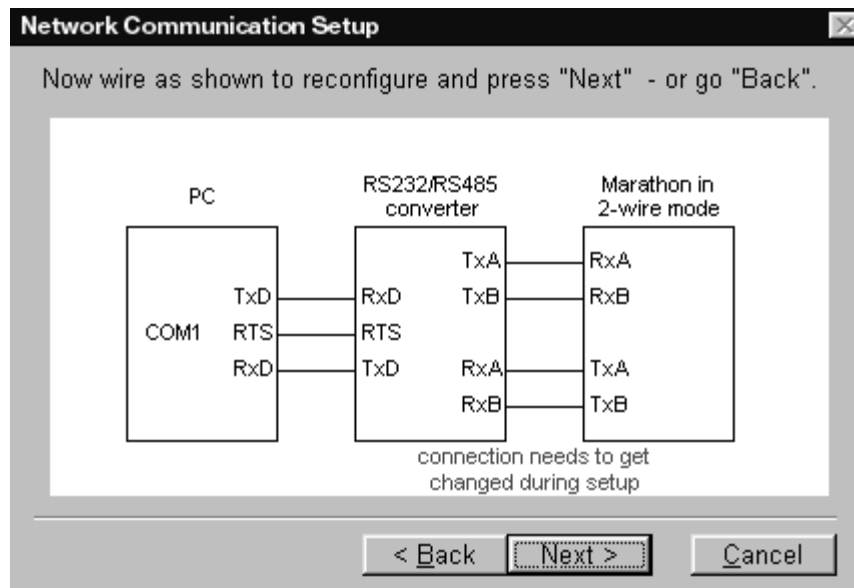

Figure 3-13: 2-Wire Setup Wiring Diagram Screen
- Depending on the selection you make, a screen showing how the wiring should be displayed (similar to Figure 3-13). Follow the directions and click the Next button.